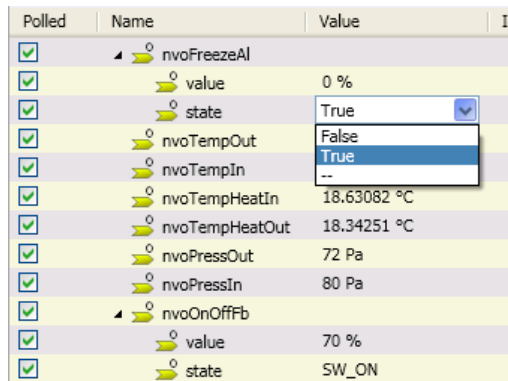

Figure 87: Change Data Point Value in Watch View
1. Click on the value of a data point. Depending on the data point type, a drop down list, a number input, or a text input box is displayed (see Figure 87).